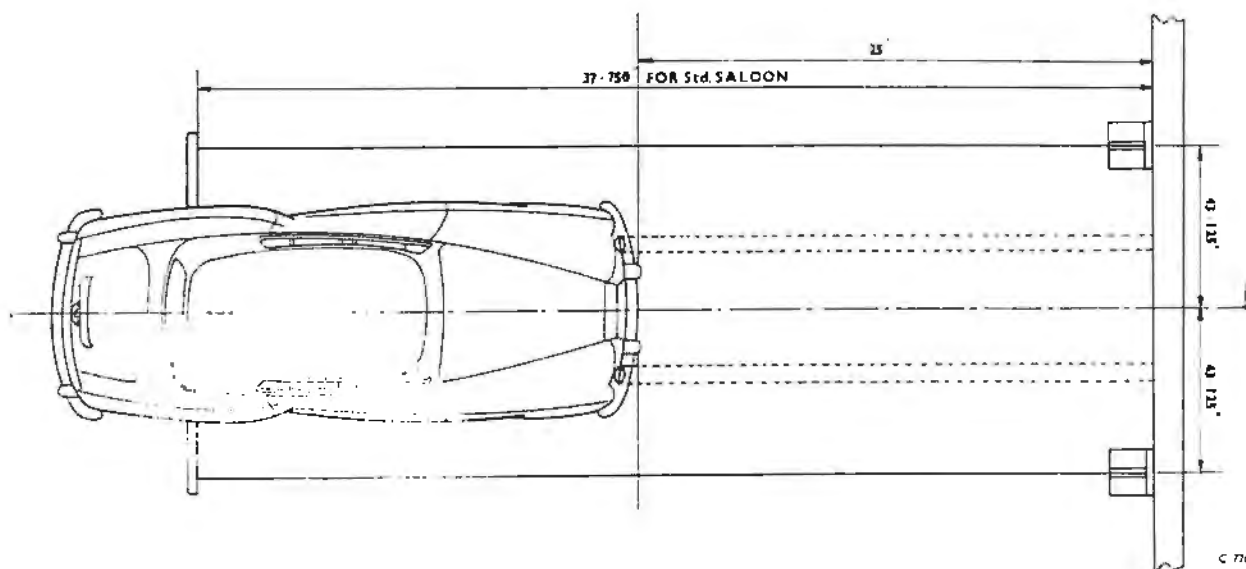

Fig. 3 Car and screen in position for aiming the headlamps
- 4a Using the recommended method, the screen should be placed square to the front of the car at a distance of 25 ft. as shown in Figure 3. This is achieved by removing the rear wheel discs and pushing the cord anchorage pegs into the holes in the rear axle shafts. The screen is moved back until the cords are taut and then sideways until the cords line up with the grooves in the aiming blocks.